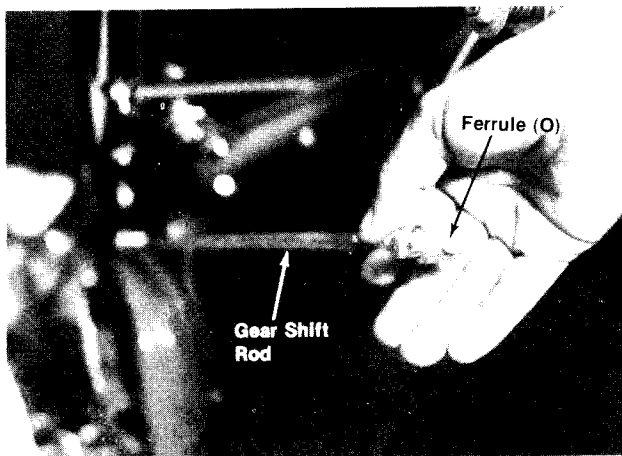

FIGURE 10.
- I. Thread ferrule (O) on other end of gear shift rod. See figure 10.